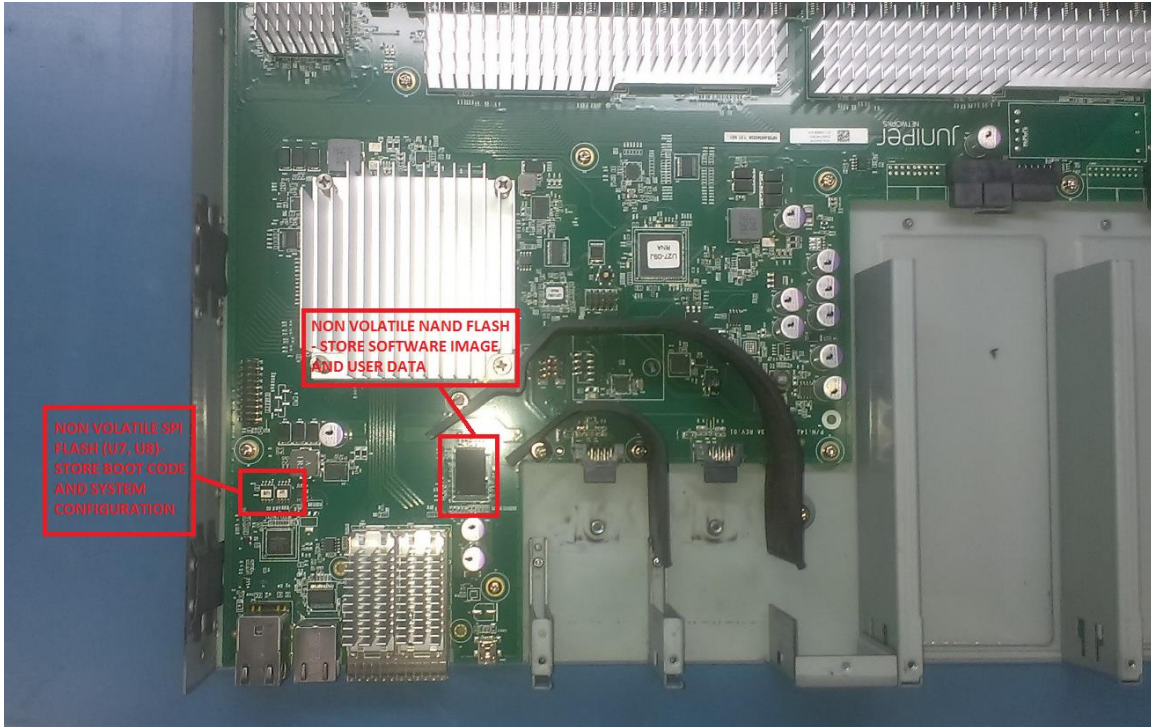

Figure 3-6: Locate NV storage
| Figure 3-6: | Locate NV storage | 6 |
7. Locate NV storage (Figure 3-6).